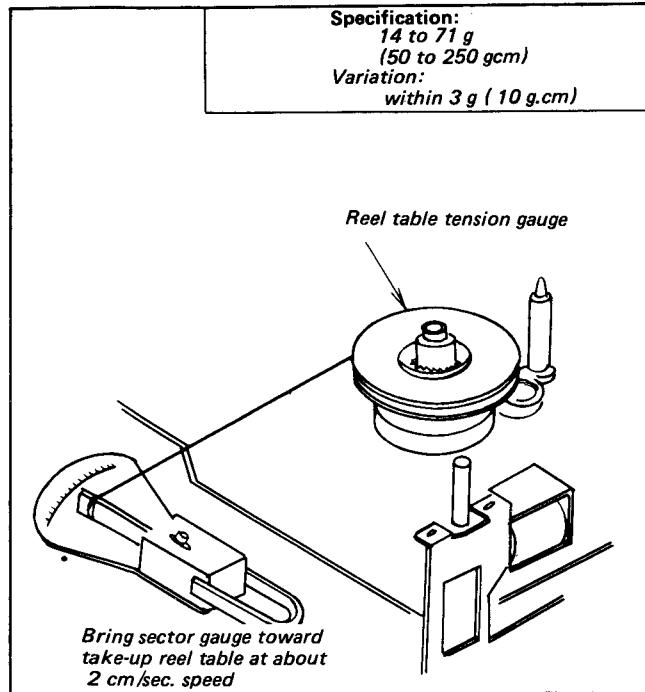

Fig. 3-18. Check of Cassette Eject Torque
- (1) Disconnect the belt from the threading motor SA.
- (2) Attach the reel table tension gauge as shown in Fig. 3-18.
- (3) Pull out the string of the gauge about 30 cm (12 inches) and hook the sector type gauge (50 g fullscale) on the end of the string.
- (4) Set up the EJECT mode.
(5) As shown in Fig. 3-18, bring the sector type gauge speed of approximately 2 cm/sec. and make sure that the reading of the gauge is within a range of 300 to 400 g. When necessary, adjust the torque using the torque adjusting volume (VR-4) on the SYSCON printed wiring board.